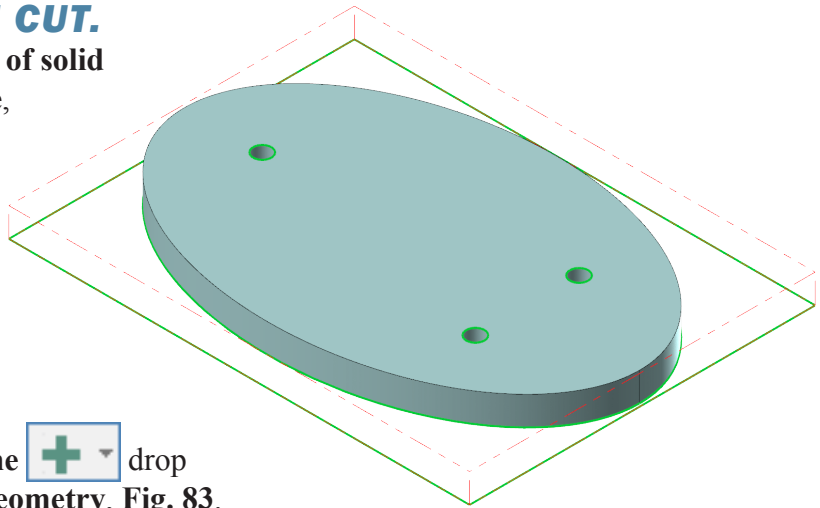

Fig. 83
Step 1. Rotate view to view **bottom of solid with single hole on left side**, hold down middle mouse button (wheel) and drag to rotate view, **Fig. 83**.
Click **Create a new plane**  drop down and select **From geometry**, **Fig. 83**.